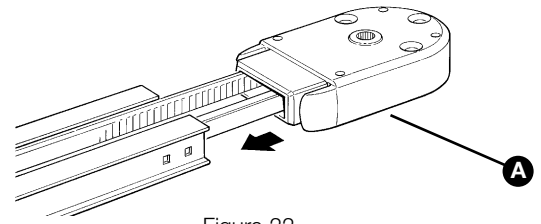

Figure 22
**5** Return the belt tensioner device and carriage to the initial position. Assemble the guide head section **[A]**, as shown in figure 22. This requires a certain force; if necessary use a rubber mallet.